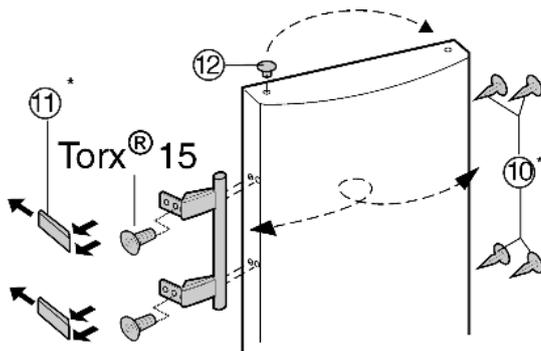

Fig. 9
- ▶ Lift the stopper *Fig. 9 (12)* out of the door bearing bush and transfer it.
- ▶ Detach door handle, stoppers *Fig. 9 (10)* and pressure plates *Fig. 9 (11)* and transfer to the opposite side.